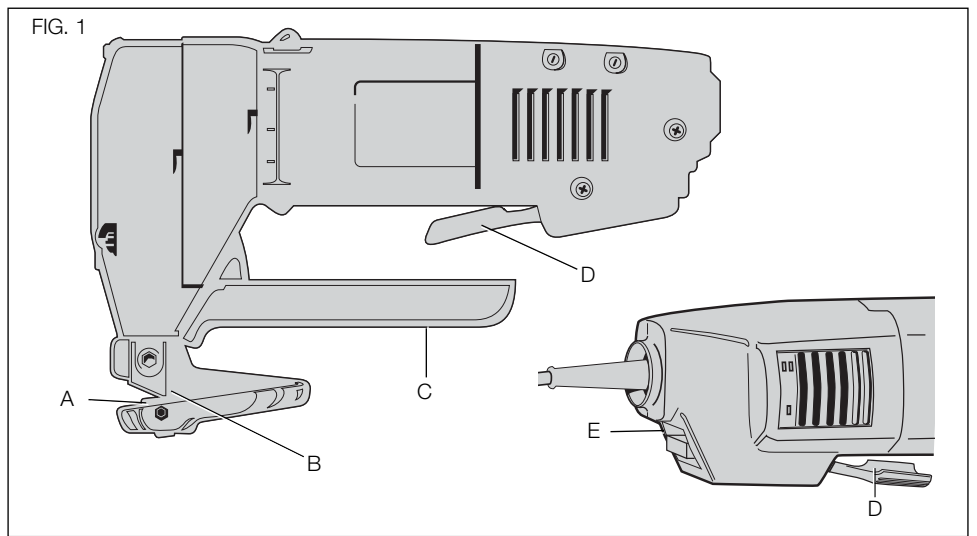

FIG. 2
Setting the Blades (Fig. 2, 3)
Position the moving blade at the top of its stroke. Adjust the vertical clearance so that the "V" shaped opening appears as in Figure 2.
The upper movable blade (B) must be centered to correspond with the position of the lower fixed blade (A) as shown in Figure 2 by releasing the clamp screw with the key provided.